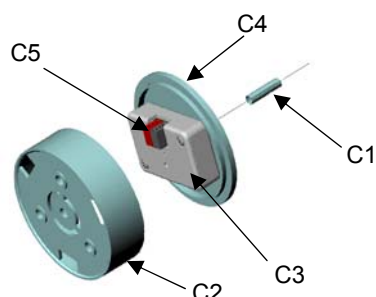

Figure 3: *Mounting the AP 255/12*
Mounting and dismantling the AP 255/12: (see figure 3)
- The system is supplied with a surface-mounting housing Ø 75 mm, height 27 mm, cover with bayonet connection (see figure 3).